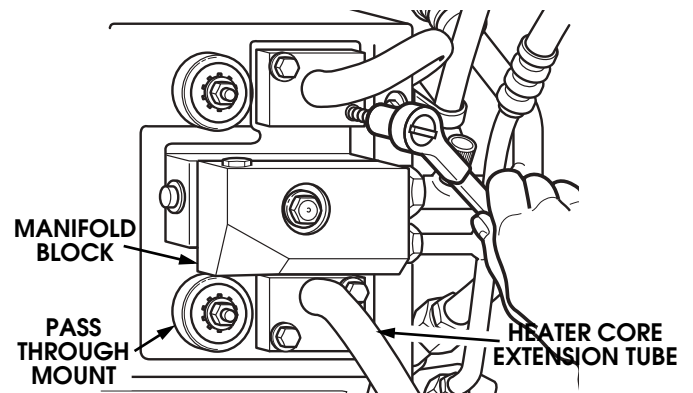

Figure 11-64: Passthrough Fastener Removal
17. Remove bolt securing HVAC manifold block to expansion valve and discard sealing gasket. Cap all openings (Figure 11-64).
18. Remove 2 nuts, washers, and grommets from passthrough mounts (Figure 11-64).